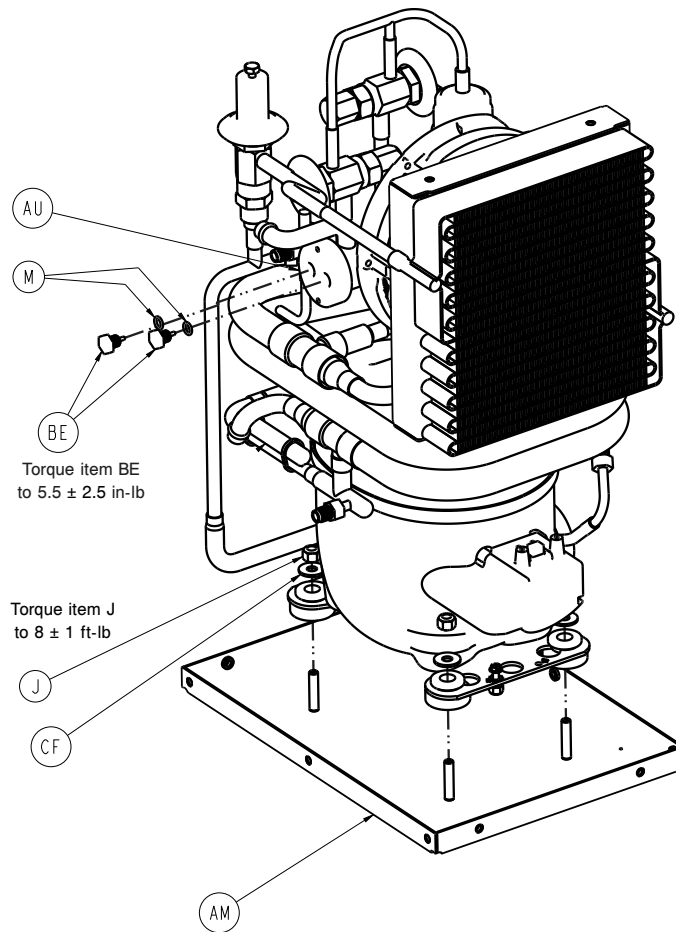

Figure 28 – Temperature probe
5. Using a utility knife, remove the insulation around the heater well to gain access to either temperature probes (BE) (Figure 28).